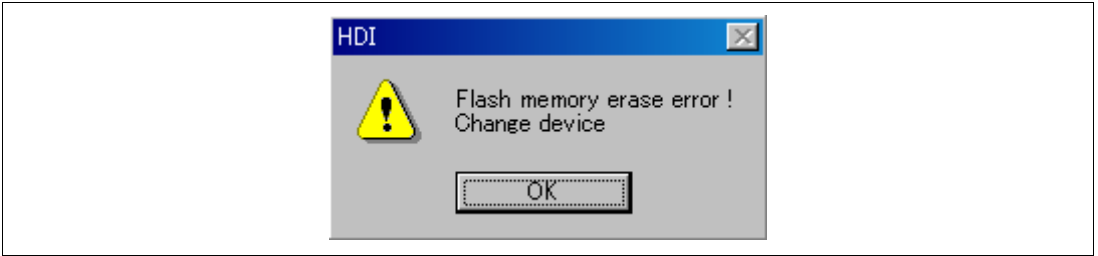

Figure 2.16 [Flash memory erase error!] Dialog Box
3. If the emulator is not properly initialized, one of the dialog boxes shown in figures 2.16 through 2.19 will appear.